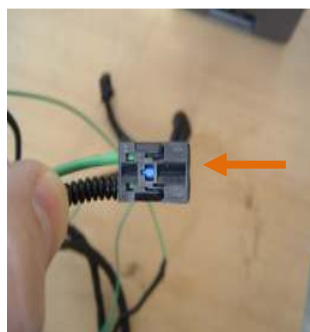

Fig 3
4. Remove the optical connector from the CD changer plug – see Fig 3